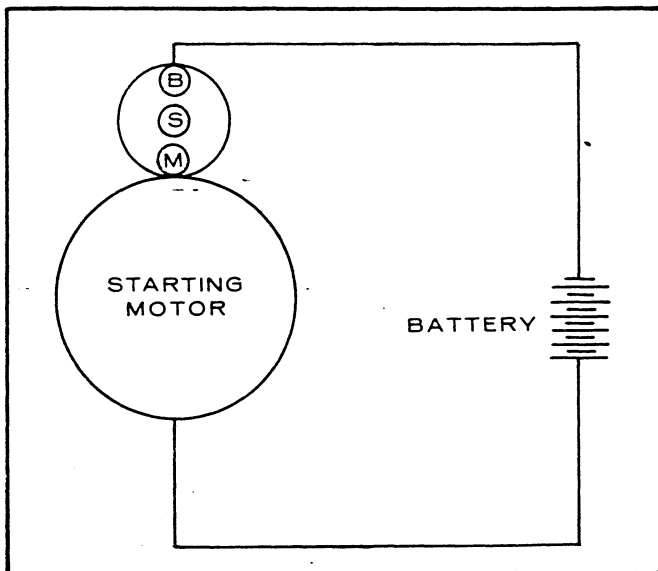

FIGURE 47. BATTERY CONNECTIONS
2. **Adjusting Pinion Clearance.** Connect the battery to the starting motor as shown in Figure 47. This will allow the pinion of the starting motor to slide and stop. In this state, measure the clearance between the end of the pinion and pinion stopper when the pinion is pushed lightly toward the commutator end. Clearance should be .02" to